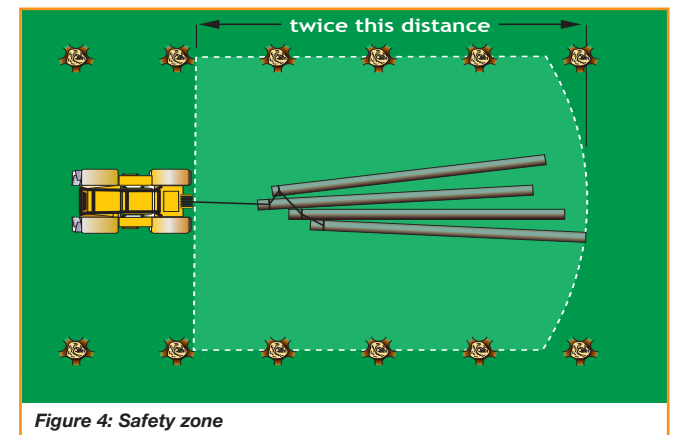

Figure 4: Safety zone
- ❑ 23 Stop work when anyone comes within a distance equal to twice the length of the load and hauling rope (see *Figure 4*).